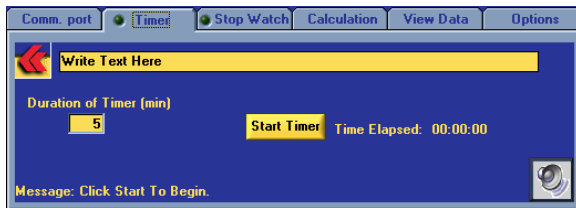

Figure 5: Timer Tab
5. **Timer Tab.** The timer is provided for the convenience of the user and can be used for any laboratory need such as the timing of sample heating or preparation. The timer tab is shown in Figure 5.